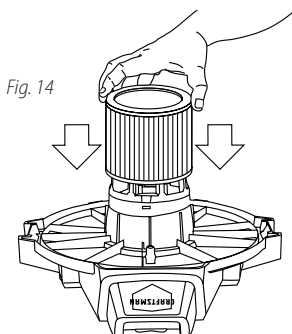

Fig. 14
33. With the tank cover in an upside down position, slide the cartridge filter **14** down over the lid cage, pushing until the filter seals against the cover. **Fig. 14**.